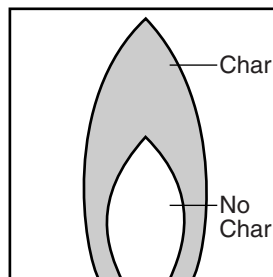
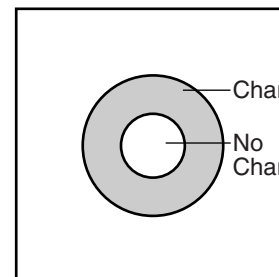

Figure 1a.
Figure 1b.
1. Use tongs to hold a piece of cardboard vertically in the flame. As charring occurs, remove the cardboard (extinguish any fire that has started). Show the results to your students (see Figure 1a). Repeat using a new piece of cardboard and holding it horizontally in the flame (see Figure 1b).